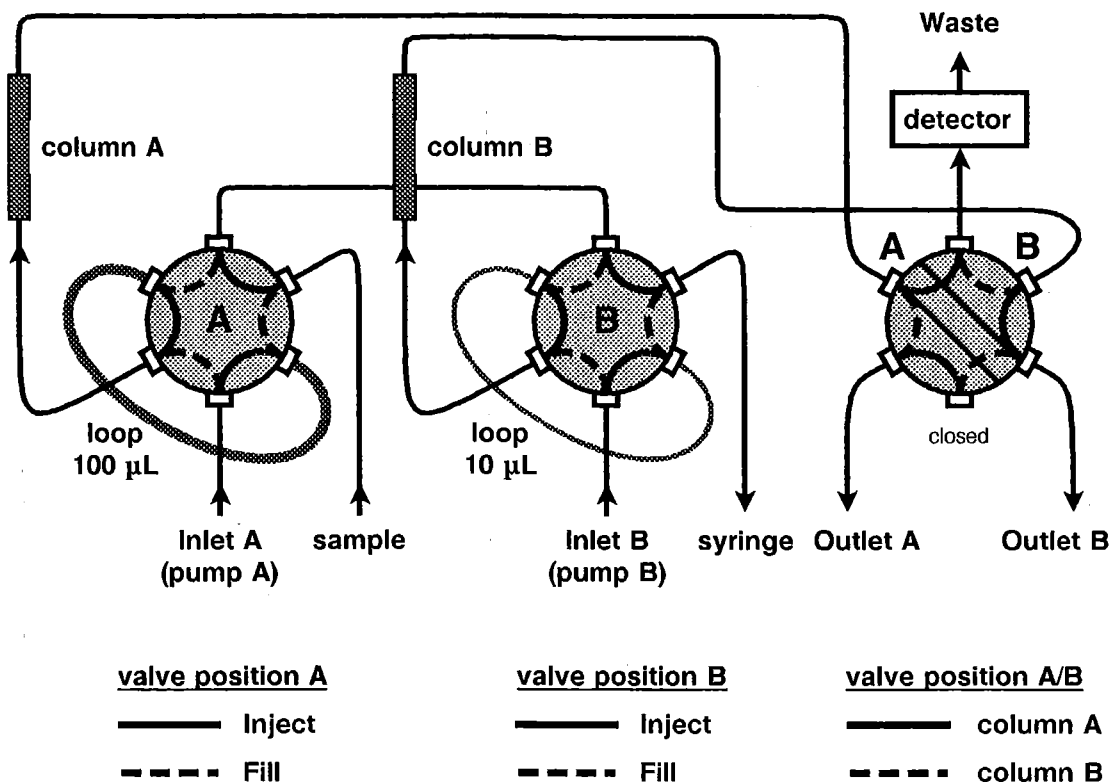

Fig. 20: Operating principle of the injector at the 690.0030 Ion Chromatograph (view from the front side of the instrument)
Two VALCO loop injection valves **A** and **B** – triggered electrically either by pressing switch (34) or (41) or externally by the 698 Autosampler – are built into the 690.0030 Ion Chromatograph for the injection of samples. Injector **A** has a **100 µL loop**, injector **B** a **10 µL loop**. If other sample volumes need to be injected, this loop must be replaced by a commercially available loop with the desired volume (e.g. 6.2620.080 sample loop 10 µL or 6.2620.090 sample loop 100 µL). Fig. 20 shows a schematic representation of the operating principle of the injectors in the positions "Fill" and "Inject".
- 1▶ Turn the injection valve switch (14) at the front of the 690.0010 Ion Chromatograph to the "Fill" position.